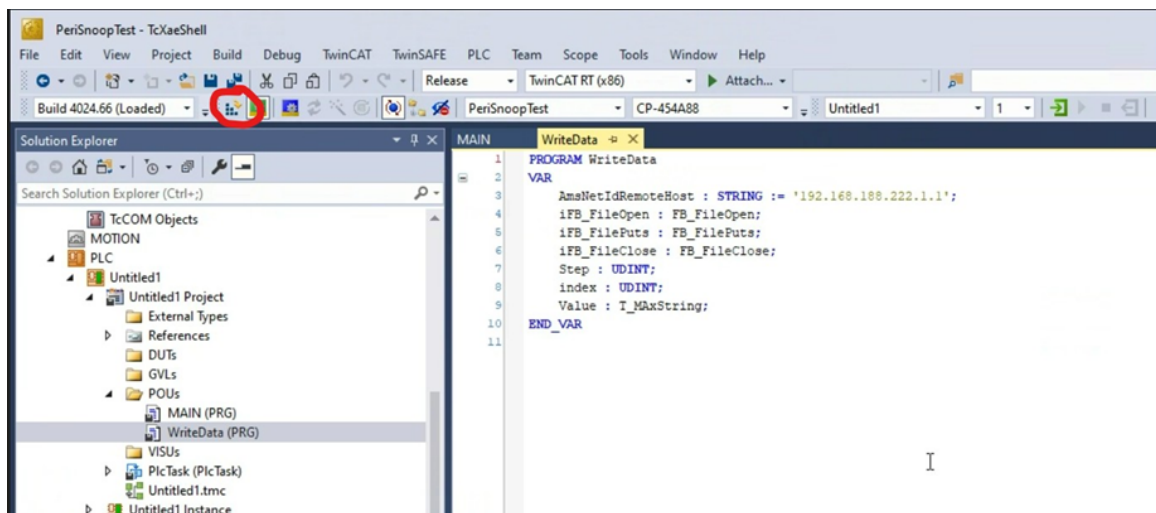

Figure 14: Load the Project to the Controller
11. To load the project to the controller, click the “Activate Configuration” button as marked in Figure 14.